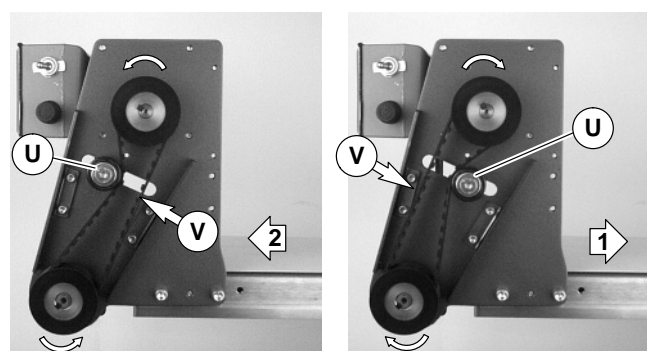

Figure 7
7. Depending on conveyor belt travel (direction 1 or 2), locate timing belt tensioner (U of Figure 7) as shown. Tension timing belt to obtain 3 mm deflection for 456 grams of force at timing belt mid-point (V). Tighten tensioner screw to 12 Nm.